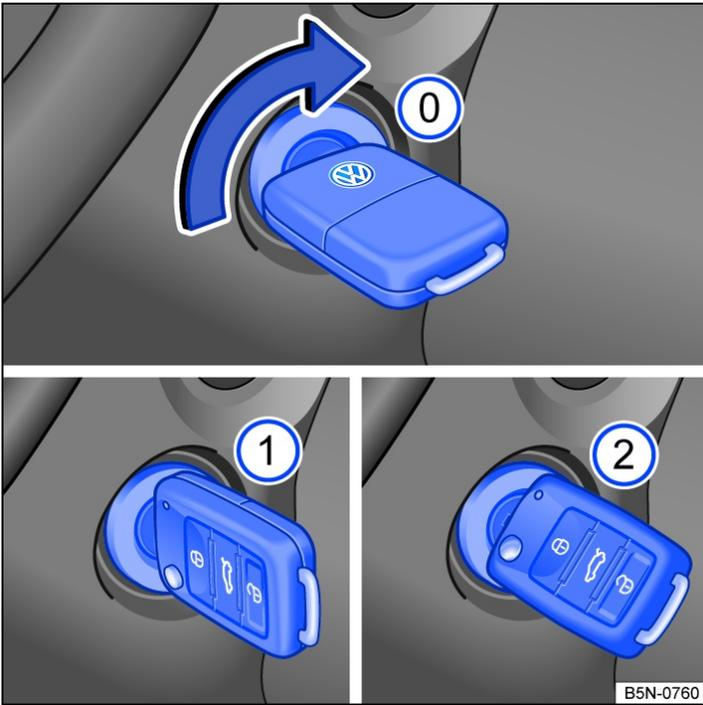

Fig. 1 Positions of the vehicle key in the ignition lock.
Vehicle key positions → Fig. 1
- ① Ignition switched off. The vehicle key can be removed.
- ② Ignition switched on. Steering lock can be released.
- ③ Press the brake pedal when the indicator lamp  lights up green. Start the engine. Release the vehicle key as soon as the engine starts. Once released, the vehicle key moves back to position → Fig. 1 ①.